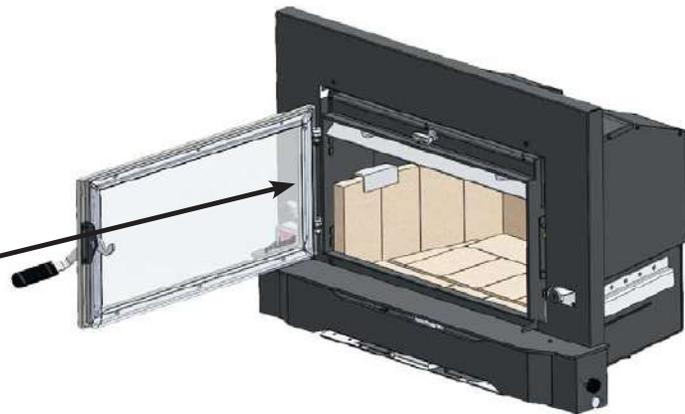

Fig. 18
2. Hold bottom nuts using a  $9/16$ " wrench. Use a  $1/4$ " Allen head screwdriver to back nuts off the bolts. **(Fig. 18)**